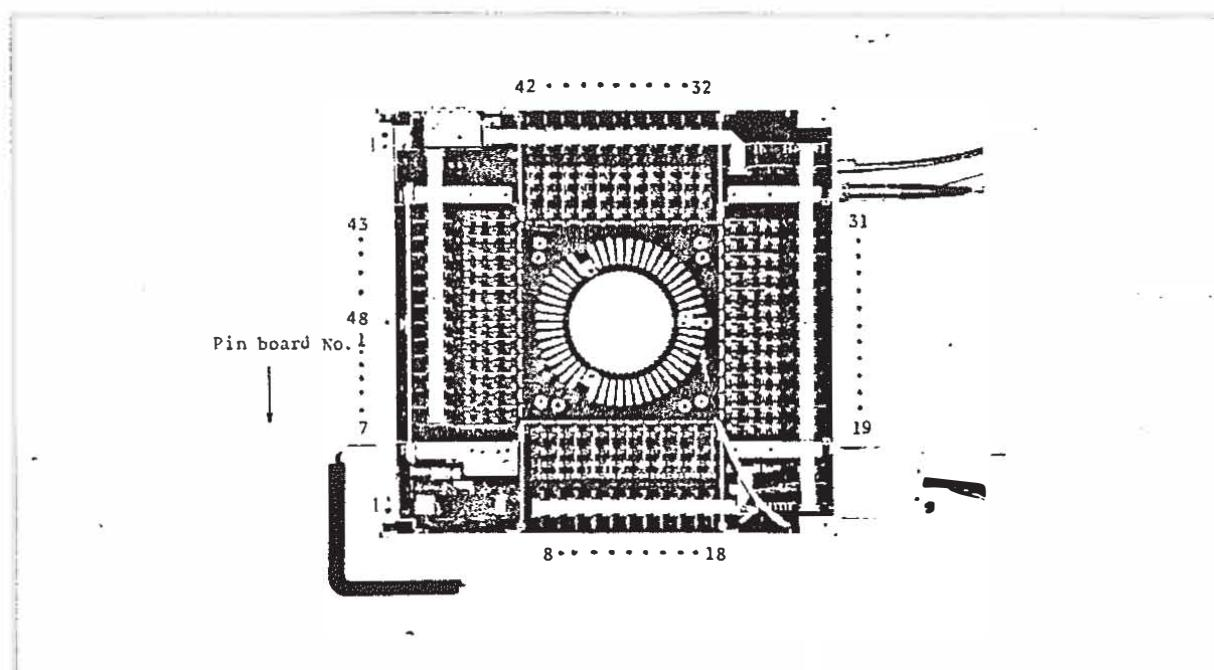

Figure 2-4. Pin Board Locations
6. Insert each pin board into the desired slot and connect the board's cable assembly to the corresponding position on the measurement pin mounting ring. Refer to Figure 2-4.